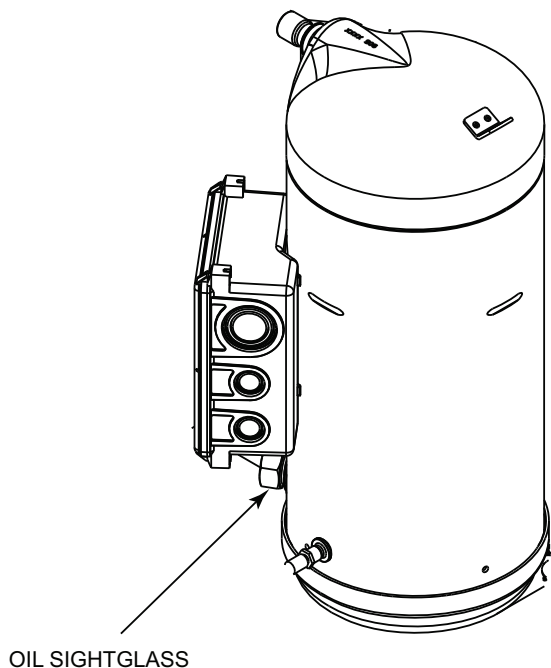

Fig. 48 — Sight Glass Location
5. Oil should be visible in the compressor sight glass(es). See Fig. 48. An acceptable oil level in the compressors is from 3/8 to 5/8 of sight glass when the compressors are off. Adjust the oil level as required. See Oil Charge section on page 83 for Carrier approved oils.